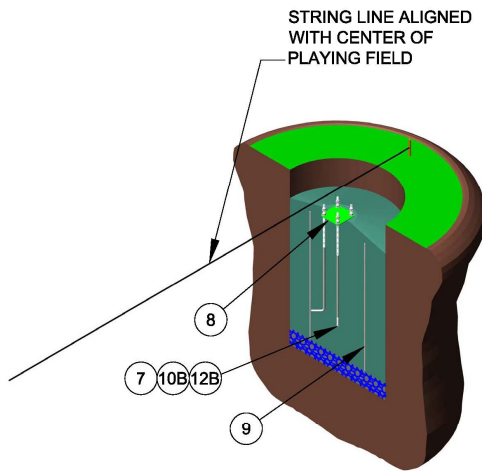

FIGURE 6
Post Installation – Plate Mount (Figures 6,7,& 8)
6. Insert the plate and rod assembly into the concrete and work it down until the bottom of the plate is touching the concrete. (Figure 6) Make sure the center of the plate is directly under the string line and make sure the center of the plates is 8'-2 3/4" behind the front of the end zone end line.